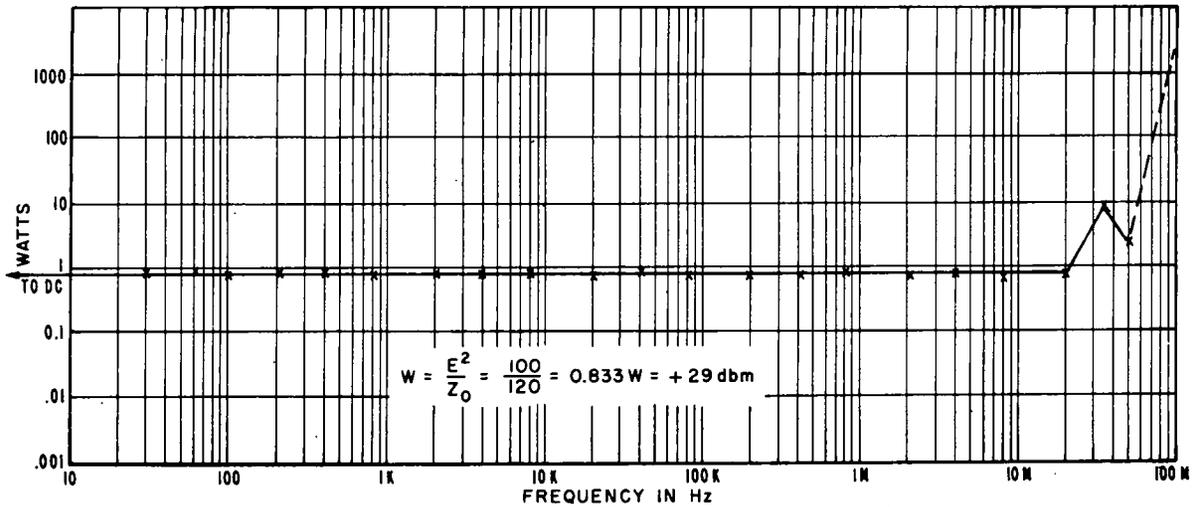

Figure 4: RF Power Required to Generate a 10 V/m Field in Parallel Plate Line Model
**RF Power** The parallel plate line will accept 250 watts continuously. Figure 4 shows that the typical RF power required to generate a 10 V/meter field. Each line should be calibrated individually.
**Transmission Line** Figure 4 illustrates the "electrical" construction of a transmission line antenna. Framing, bracing and supports are not shown. This antenna will accept 250 watts continuously.